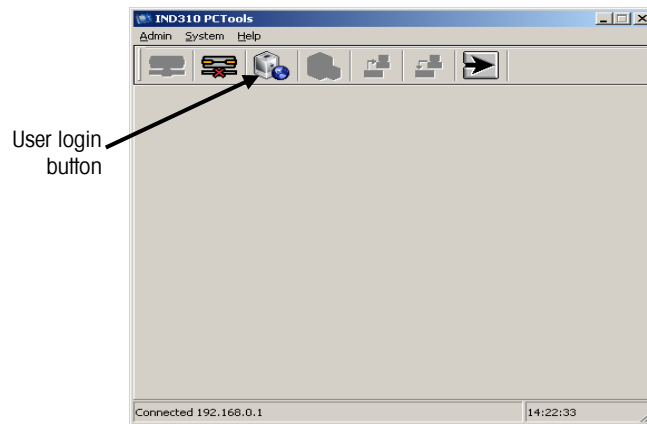
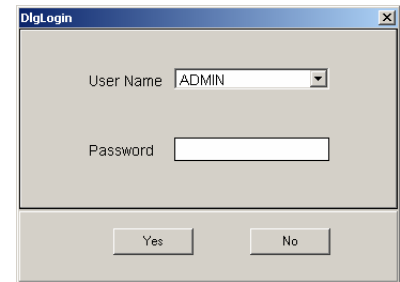

Figure B-10: User Login Button
Figure B-11: User Login
4. Click on the User Login button (Figure B-10). The User Login dialog box displays (Figure B-11).